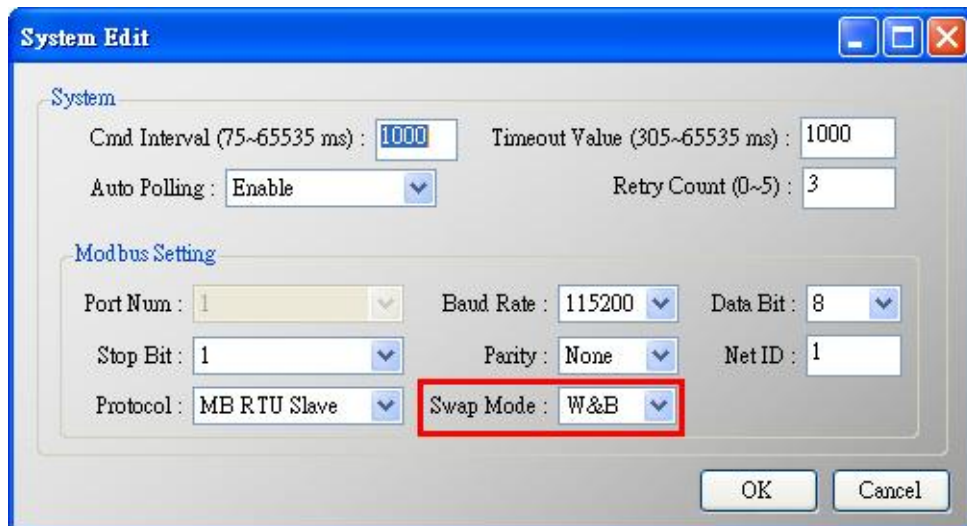

Figure 3-2 Set “Swap mode” to be “W&B”
- [2] Set the “Swap mode” item to be “W&B” and click “OK” button like Figure 3-2.